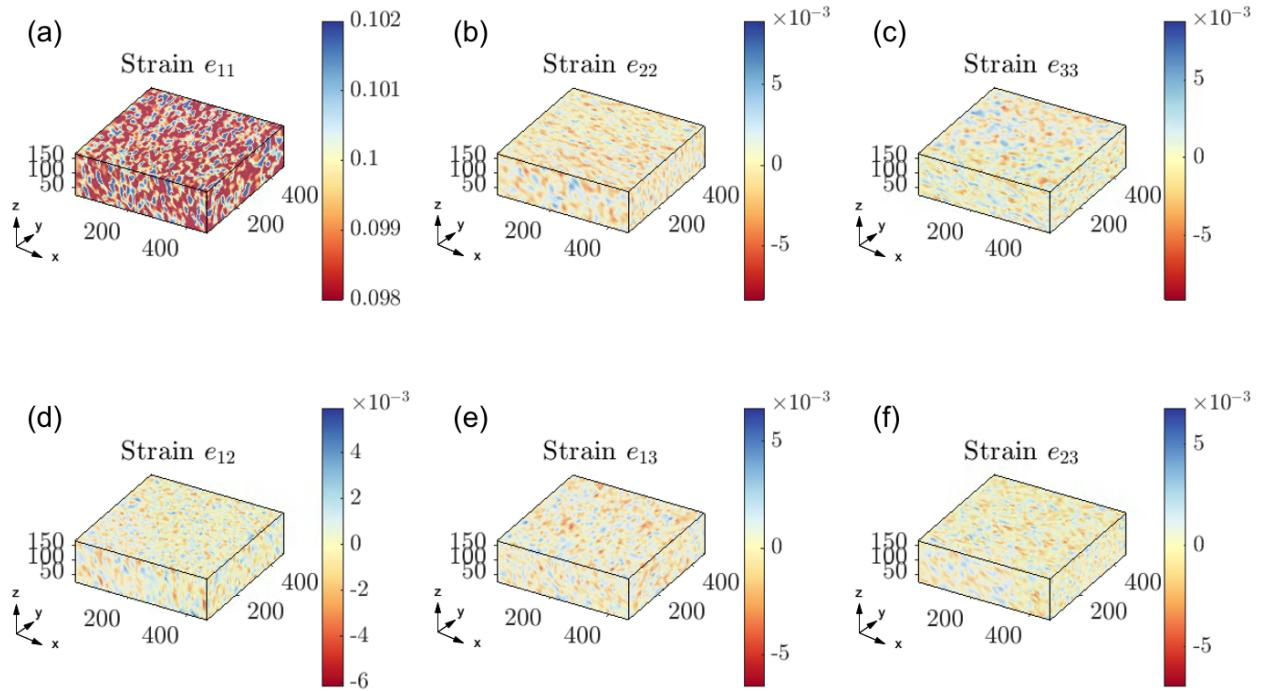

Figure 11: Solved infinitesimal strains from Subproblem 1 IC-GN iterations.
In this uniaxial stretch example, solved displacement and strain results are shown in Fig. 10 and Fig. 11. There are 585 (only 2.2% out of the total 26,325 subsets) bad local subsets that did not converge in the local step (IC-GN iterations) for this case. Here the PC is: Processor Intel(R) Core(TM) i5-4670K CPU 3.40GHz, RAM 16.0 GB, OS 64-bit Windows 10. Volumetric image size: 512vx $\times$ 512vx $\times$ 192vx; each subset size: 20vx $\times$ 20vx $\times$ 20vx; neighboring subset distance: 10vx $\times$ 10vx $\times$ 10vx. Four threads are used here. Although this computation speed is a little bit slower than the reported time cost in our paper [1] where an Intel i7-9800X, CPU 3.80 GHz, RAM 64.0 GB, 64-bit OS with 8 threads are used, it is still fast and finishing within three minutes with these DVC parameters. If you do not have the Parallel Computing toolbox installed in MATLAB, or the